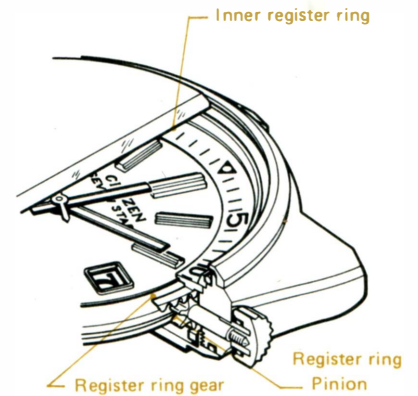

Fig. 4
- In the structure of watchcases with inner register rings, there are two types: The metal ring type and the GN-3 type waterresistant device. However, their register ring handling method are exactly the same (Fig. 4).